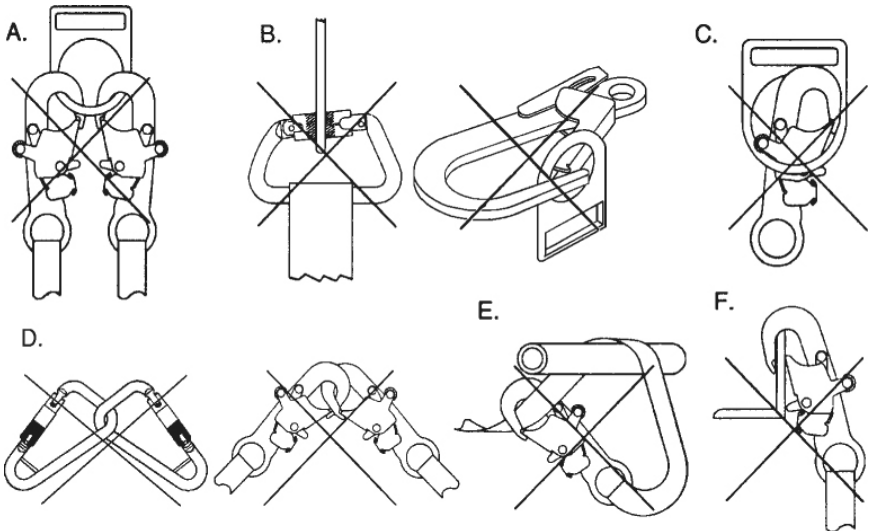

Figure 1
3) Making Connections: Only use self-locking snap hooks and carabiners with this equipment. Only use connectors that are suitable to each application. Ensure all connections are compatible in size, shape and strength. Do not use equipment that is not compatible. Ensure all connections are fully closed and locked. Reliance connectors (snap hooks and carabiners) are designed to be used only as specified in each product's user's instructions. See Figure 1 for inappropriate connections. Snap hooks and carabiners should not be connected: